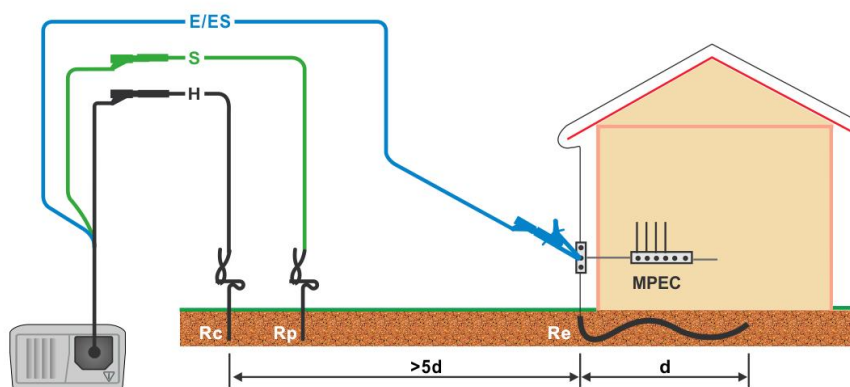
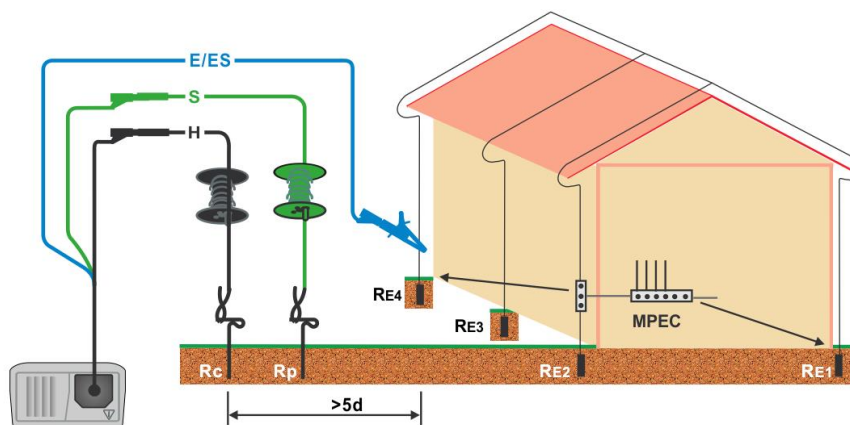

Figure 5.33: Resistance to earth, measurement of main installation earthing
Figure 5.34: Resistance to earth, measurement of a lightning protection system
- ❑ **Connect** the item to be tested (see Figure 5.33 and Figure 5.34).